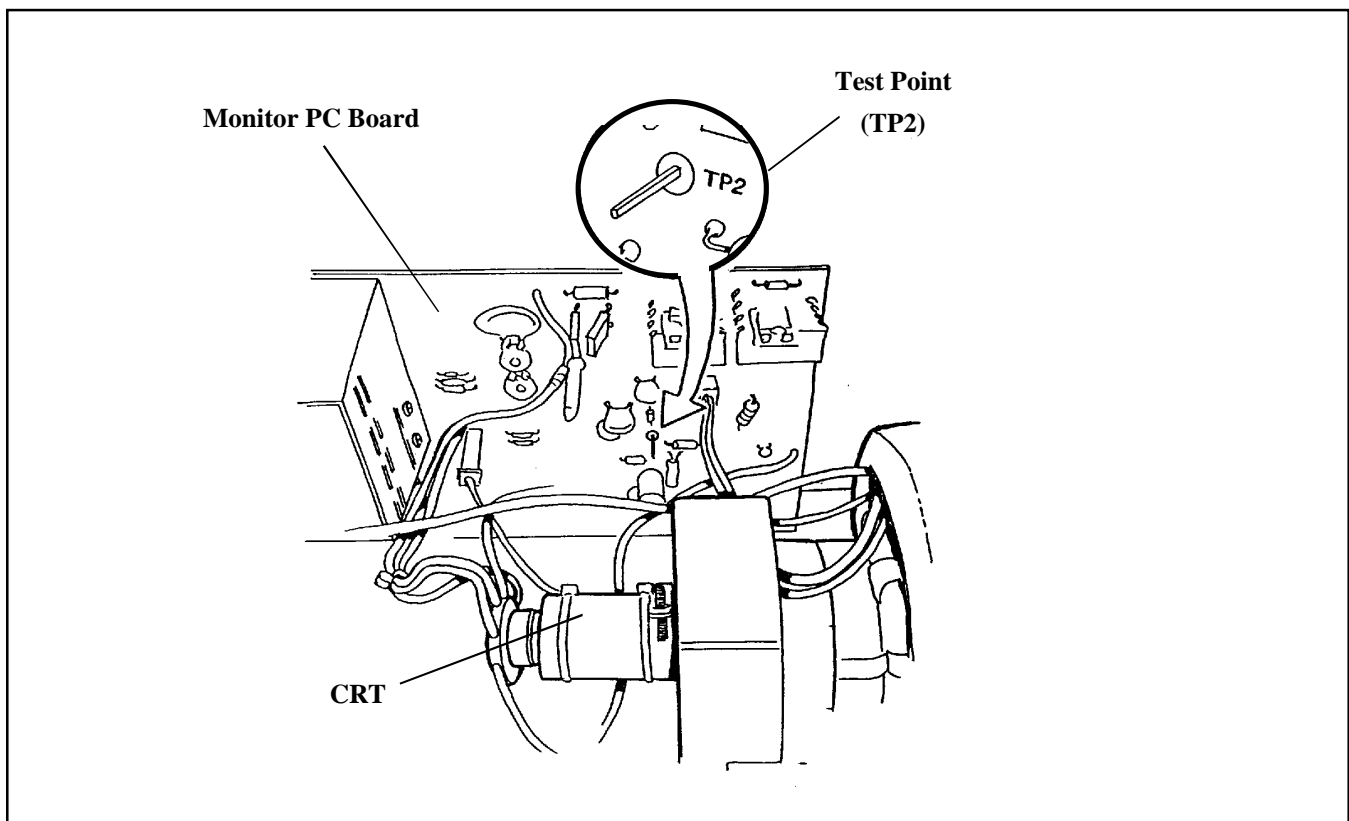

Figure A-2. Test Point TP2
- Test probe to test point **TP2** (Figure A-2).